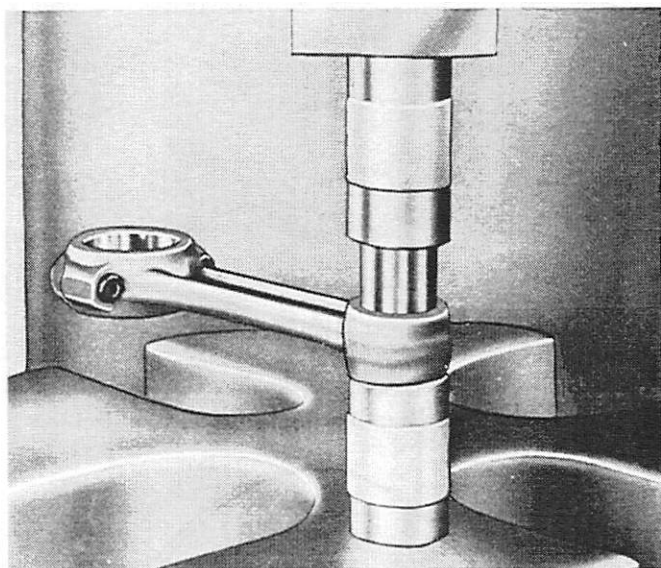

Figure 16. Installing Connecting Rod Bearings
6. With Rod Cap Holder Tool (from chart following), hold connecting rod cap with bolts while assembling rod to crankshaft. (Figure 16)